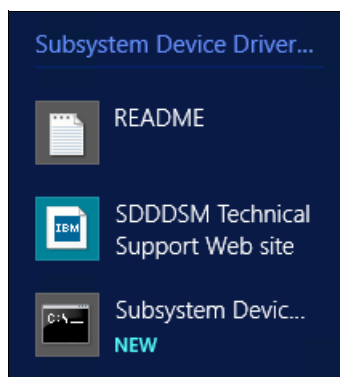

Figure 5-6 Subsystem Device Driver DSM in the all programs menu
3. Search for the section *Subsystem Device Driver DSM*. See Figure 5-6.